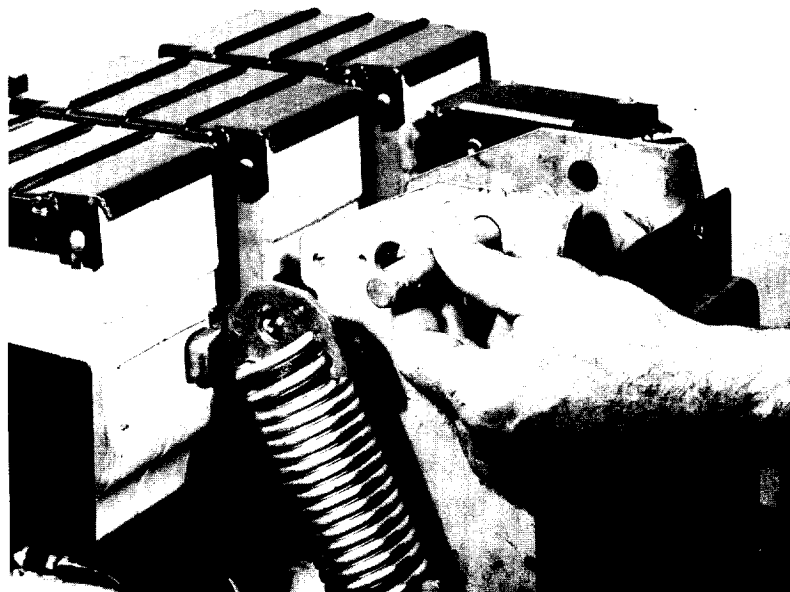

FIG. 8
6. Remove the spring pin from the breaker by sliding it to the left as shown in figure 8. Discard the pin.